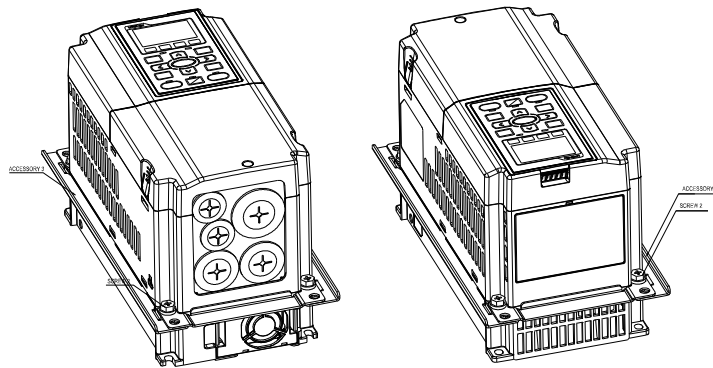

Figure 3
3. Install accessory 2&3 by fastening 2 of the screw 2 (M6) (figure 3). Screw torque: 25~30kg-cm (21.7~26lb-in).